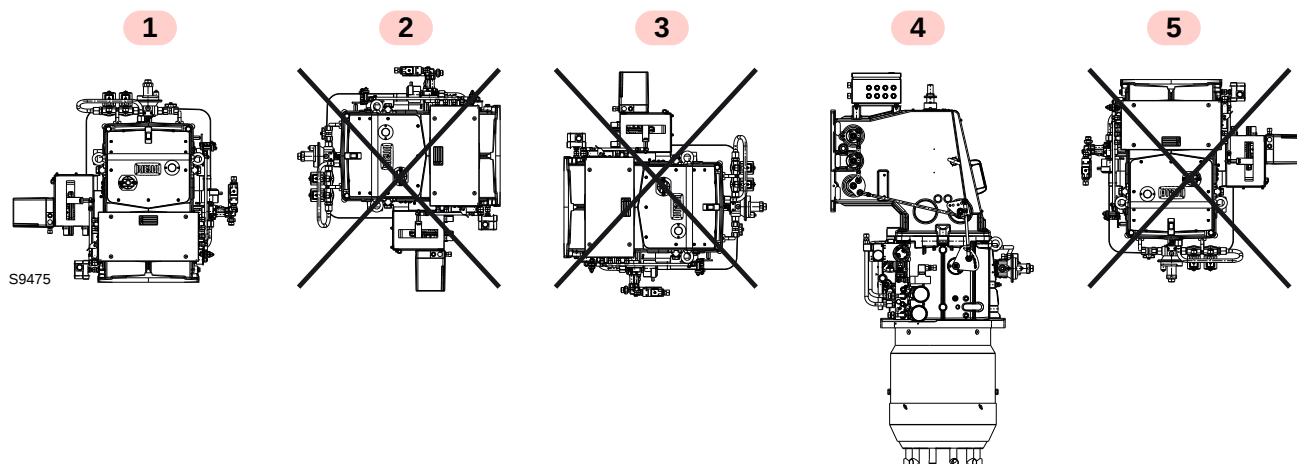

Fig. 12
- The burner is designed to work only in positions 1 and 4 (Fig. 12).